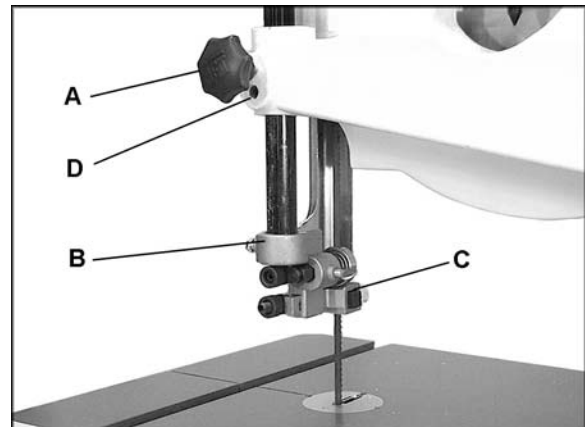

Figure 30
2. Loosen lock knob (A, Figure 30) and raise or lower upper blade guide assembly (B, Figure 30) to just above the material being cut.
3. Tighten lock knob. Make sure blade guide blocks (C, Figure 30) are still flat to the blade. If adjustment is necessary, loosen lock knob (A, Figure 30) and rotate assembly until guide blocks are flat to blade.
4. If movement of the blade guide assembly seems “stiff” when being raised or lowered, it can be adjusted to slide more easily. This is controlled by an internal spring and ball which provide varying degrees of resistance against the guide post. Use the set screw (D, Figure 30) to adjust the tension of this spring. To adjust tension on the spring, loosen knob (A, Figure 30), use a hex wrench to tighten or loosen set screw (D, Figure 30) until desired tension is reached, then re-tighten knob (A, Figure 30).